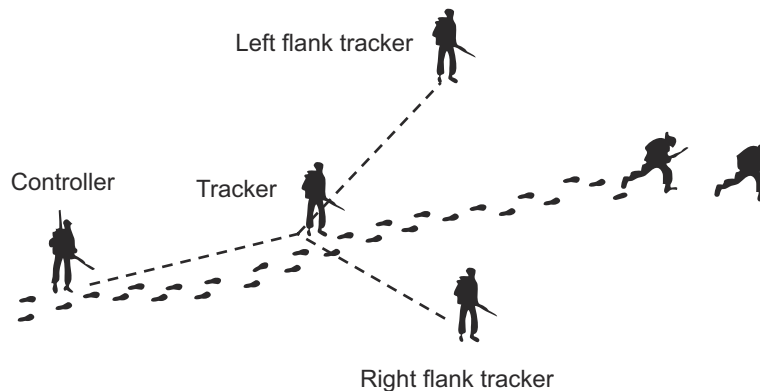

Figure 2-5. “Y” Formation.
- *“Y” formation.* This very flexible formation is the basis for all other formations and immediate action drills. Best used in open to fairly open country, the distance between trackers depends on visual contact with the controller and will vary according to terrain and vegetation conditions. See figure 2-5.